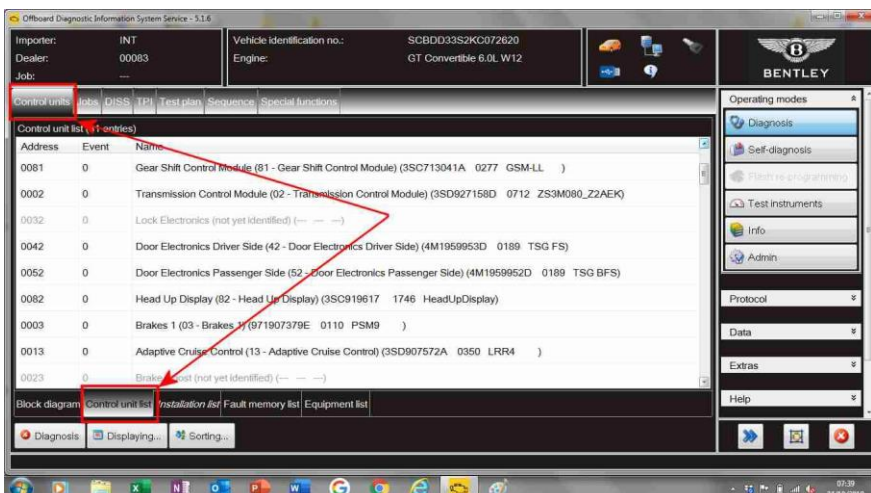

Figure 2
- From the Bentley approved Diagnostic tester main screen, select Control units and then Control units list – – figure 2.